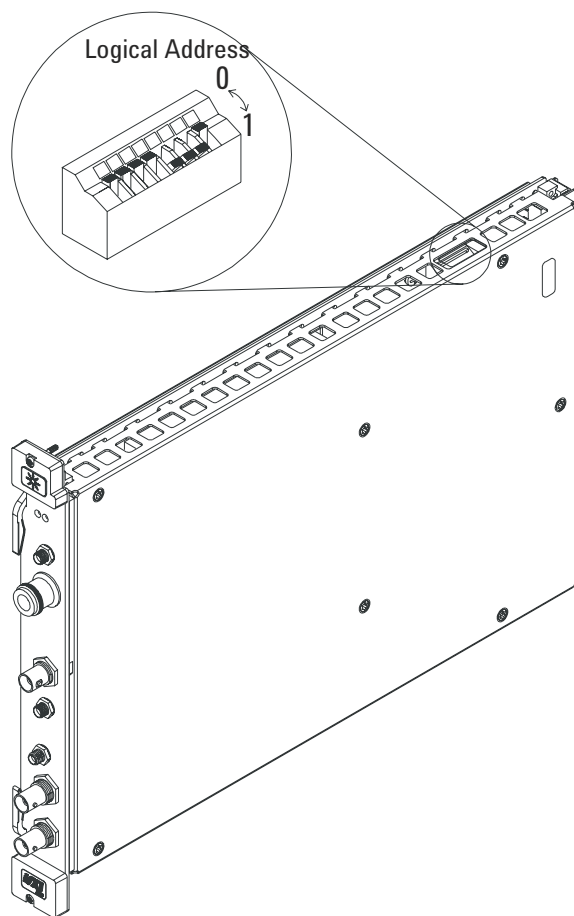
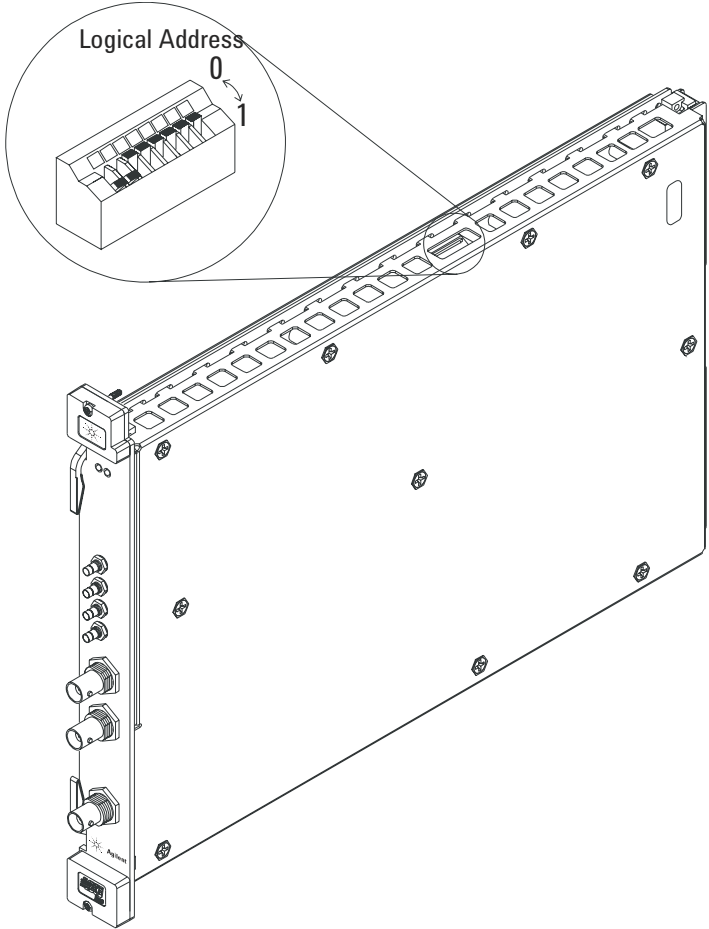

Figure 3-1 89605 Input module -- address 14 (000 1110)
Figure 3-5 E1438 ADC module -- address 192 (1100 0000)
1. Check the logical address switches for each VXI module. (See Figure 3-1 through Figure 3-5 on the following pages.) Except for the E2730 and E2731 modules, each module in the system must have a unique logical address. The following table lists the factory default settings (the addresses for second-channel 89605, E1438, AND E1439 modules must be different).